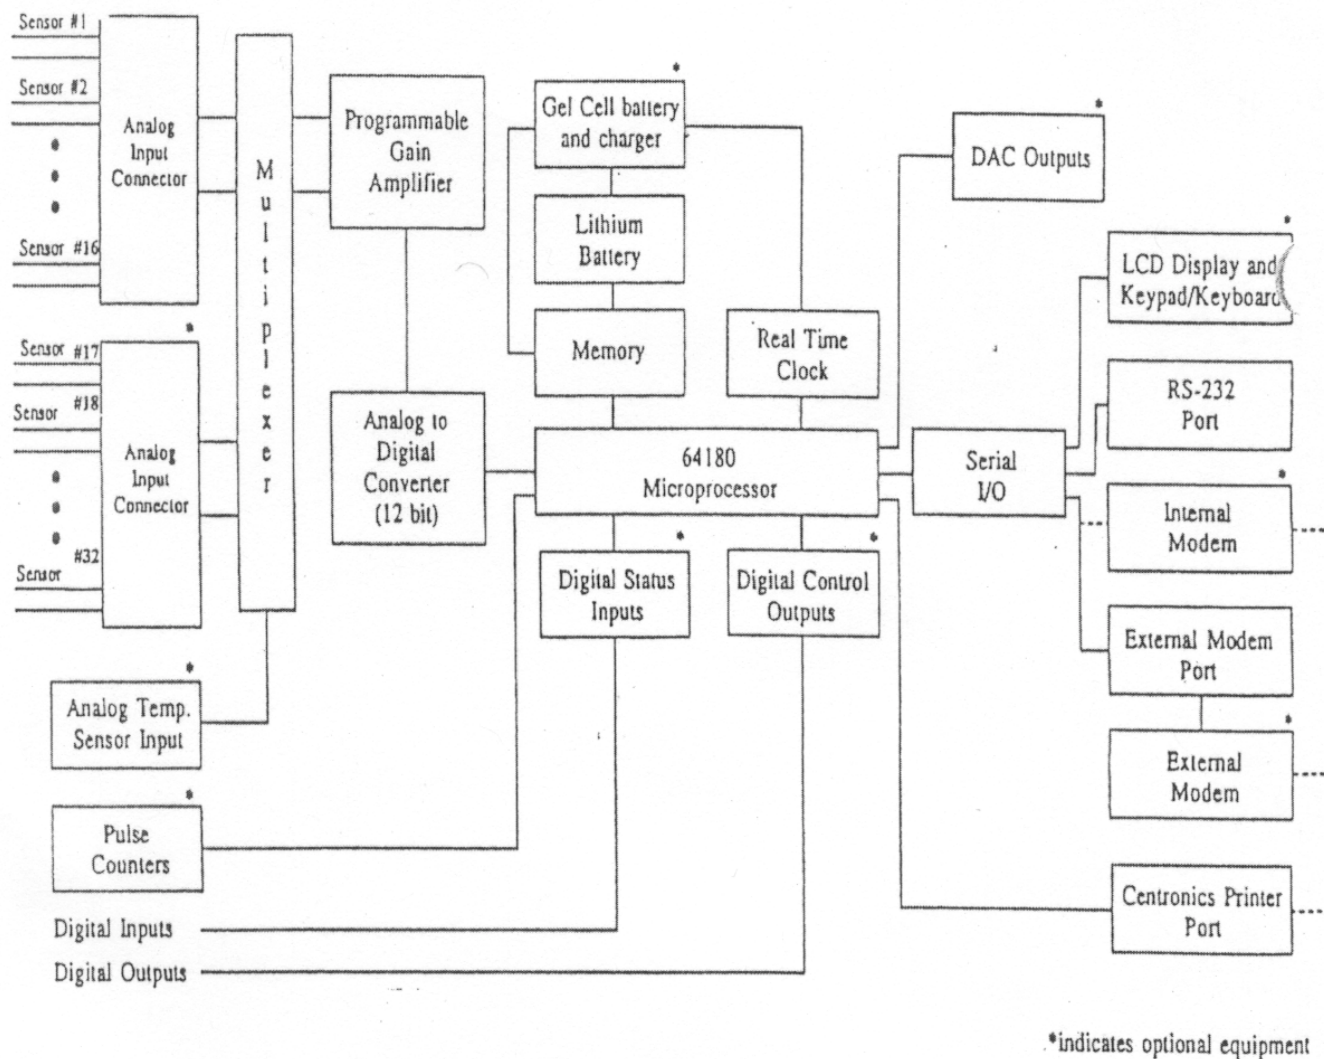

Figure AH.1.0.1
The Environmental Systems Corporation (ESC) 8800 data logger is a microprocessor-based, data acquisition system designed specifically to acquire, process, store, and telemeter environmental data. The standard unit consists of a microprocessor, analog input multiplexer, programmable gain amplifier, analog to digital converter, random access memory (RAM), read only memory (ROM), power supply, battery backup for the clock, and data storage and a keyboard/display. Figure AH.1.0.1 shows a simplified block diagram of the 8800 data logger. A brief description of the major data logger components follows.
5. Communication Ports - The standard data logger includes two RS-232 serial ports, as shown in Figure AH.1.0.1. One port is labeled External Modem for direct connect to a modem or computer for setup and data